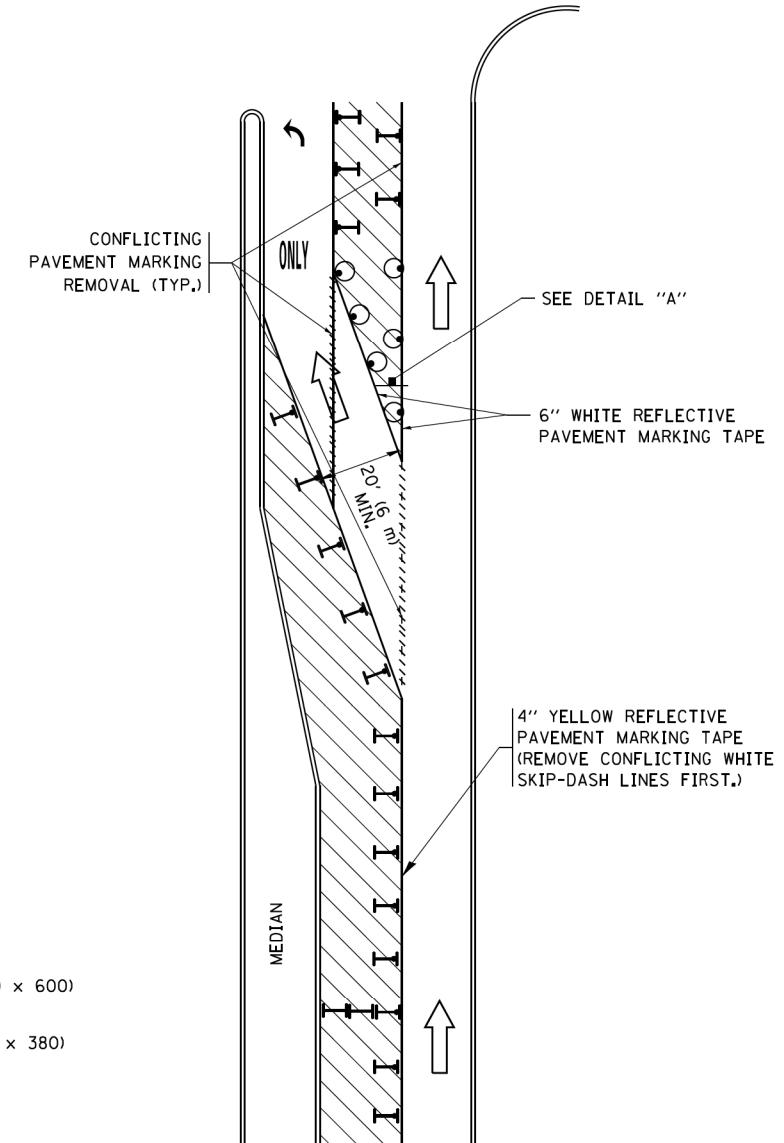

FIGURE 2
- B) WHEN 'L' IS $>$ THE STORAGE LENGTH OF THE TURN LANE OR THE TURN LANE IS WITHIN THE LANE CLOSURE, USE FIGURE 2.
2. CONES MAY BE SUBSTITUTED FOR BARRICADES OR DRUMS AT HALF THE SPACING DURING DAY OPERATIONS. CONES SHALL BE A MINIMUM OF 28 (710) IN HEIGHT.
4. REFLECTIVE TEMPORARY PAVEMENT MARKINGS SHALL BE PLACED THROUGHOUT THE BARRICADED AREAS OF EACH TURN BAY AS SHOWN WHERE THE CLOSURE TIME IS GREATER THAN FOURTEEN (14) DAYS.
5. THIS APPLICATION ALSO APPLIES WHEN WORK IS BEING PERFORMED IN THE RIGHT LANE(S) AND THE RIGHT TURN BAY IS TO REMAIN OPEN. UNDER THIS CONDITION, 'RIGHT TURN LANE' R3-I100R 24 x 24 (600 x 600) AND M6-2R 21 x 15 (530 x 380) SHALL BE USED.